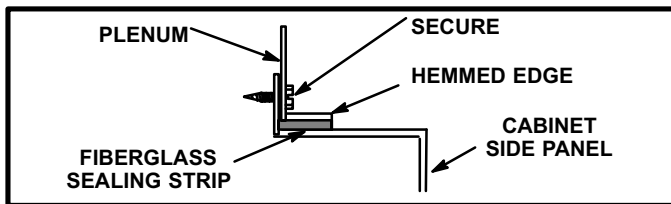

FIGURE 13
- 1 - Flange bottom edge of plenum with a hemmed edge. See figure 13.
3 - In all cases, secure the plenum to the top flanges of the furnace using sheet metal screws. See figure 13.